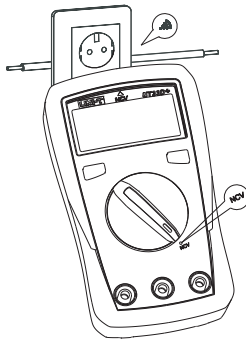

Figure 5
10. NCV measurement (only for UT33D+, see Figure 5)